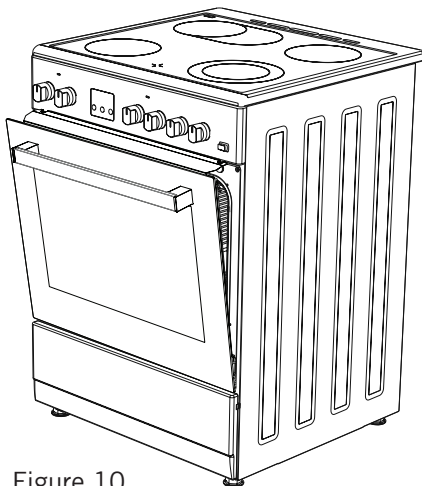

Figure 10
4. And then secure the safety panel in between oven and front cover by gently closing the cover. (Figure 10)